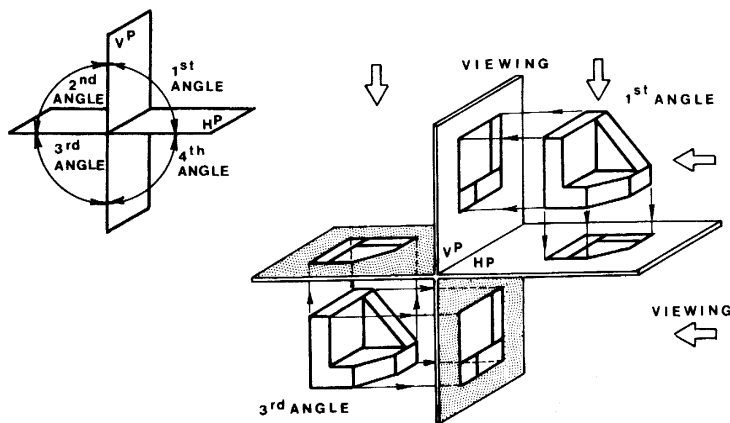

Figure 3.1 Principles of orthographic projection
Visualization is best achieved through the use of models in conjunction with drawings, to promote an understanding of reading drawings and three-dimensional thinking. Orthographic projection is based on two principal planes — one horizontal (HP) and one vertical (VP) — intersecting each other and forming right angles and quadrants as shown in Figure 3.1.